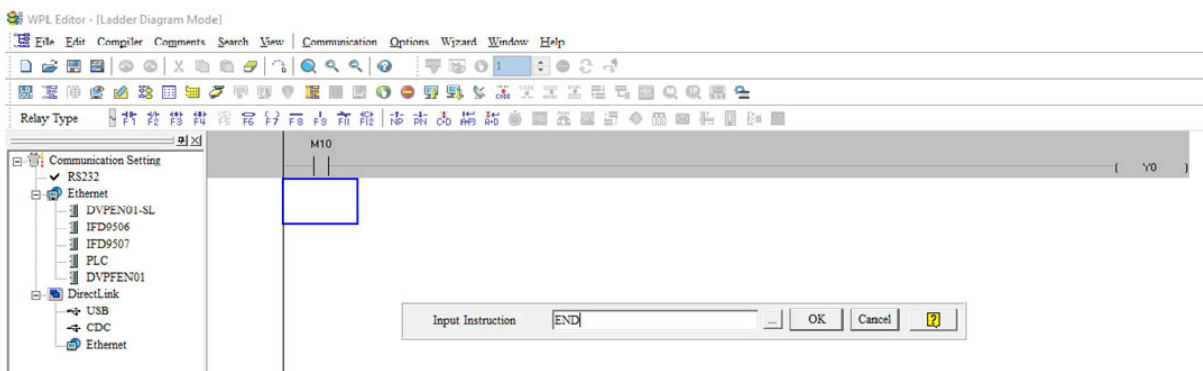

Figure 16-16
Step 4: Press ENTER button, when the “Input Instructions” window appears, key in “END” in the field and press the OK button (see figure 16-16 and 16-17 below).